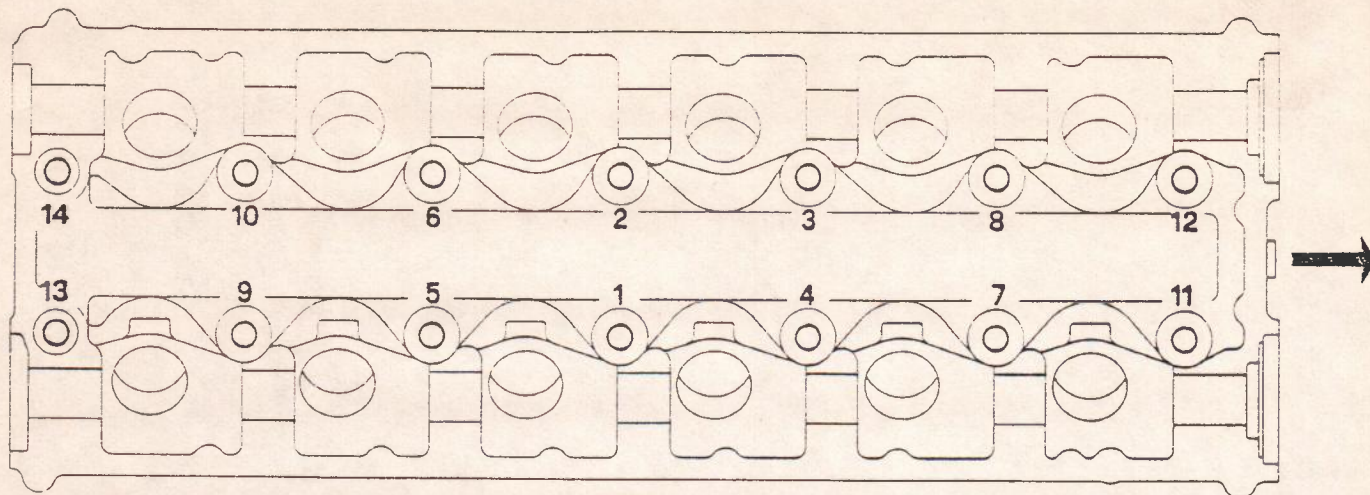

Fig. 16 - Cylinder Heads Tightening Sequence
--Carefully install the two cylinder head gaskets, making sure that all contact surfaces are absolutely clean. Next install the previously rebuilt cylinder heads on the studs. Tighten down the bolts to their specific torques using the sequence in Fig. 16 using tool AV 498.